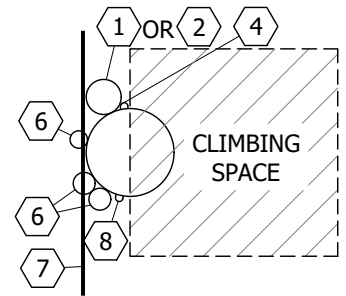

FIGURE 3
- (A) COMMUNICATIONS ONLY POINT OF ATTACHMENT FOR LADDER ARM BRACKET CONSTRUCTION SHALL BE ON THE BACKSIDE OF LADDER ARM BRACKET ASSEMBLY. GALVANIZED UNISTRUT PIPE CLAMPS SHALL BE USED TO SECURE THE CONDUIT. COMMUNICATIONS MAY ATTACH ON THE BACK OF THE LADDER ARM ASSEMBLY ALONGSIDE SDG&E'S RISER. LADDER ARMS MAYBE INSTALLED BY COMMUNICATIONS COMPANY PROVIDED THEY ARE INSTALLED PER SDG&E CONSTRUCTION STANDARDS AND MEET SDG&E MATERIAL SPECIFICATIONS.
- (B) FOR NEW CONSTRUCTION WITH AN EXISTING SDG&E RISER ON THE POLE (FIGURE 3), ONE THREE-INCH RISER MAX. ON THE POLE AND ONE THREE-INCH RISER MAX. ON THE BACKSIDE OF THE LADDER ARM BRACKET ARE PERMITTED BACK TO BACK.
- (C) WHEN A LADDER ARM IS EXISTING, AND THE BACK OF LADDER ARM POSITIONS AND POLE POSITIONS ON COMMUNICATIONS SIDE OF POLE ARE OCCUPIED, ADDITIONAL COMMUNICATIONS RISERS MUST BE PLACED ON ANOTHER POLE.